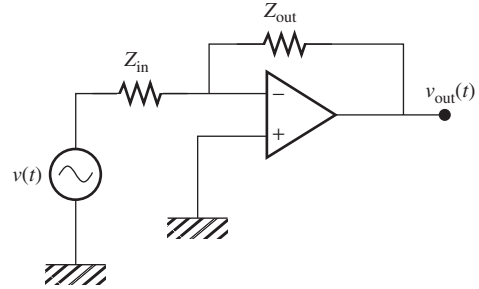

FIGURE P6.40 An inverting amplifier.
6.40 (A) An op amp is used as an amplifier to increase the magnitude of voltage output given the input voltage source. An **inverting amplifier** (see Figure P6.40) is one popular type of op amp. Given that the inverting amplifier has a gain of $G = -(Z_{out}/Z_{in})$, what is the output voltage if the voltage source is $v_s(t) = 50 \cos(120\pi t + 30^\circ)$ and $Z_{in} = 35 \Omega$, $Z_{out} = 105 \Omega$?